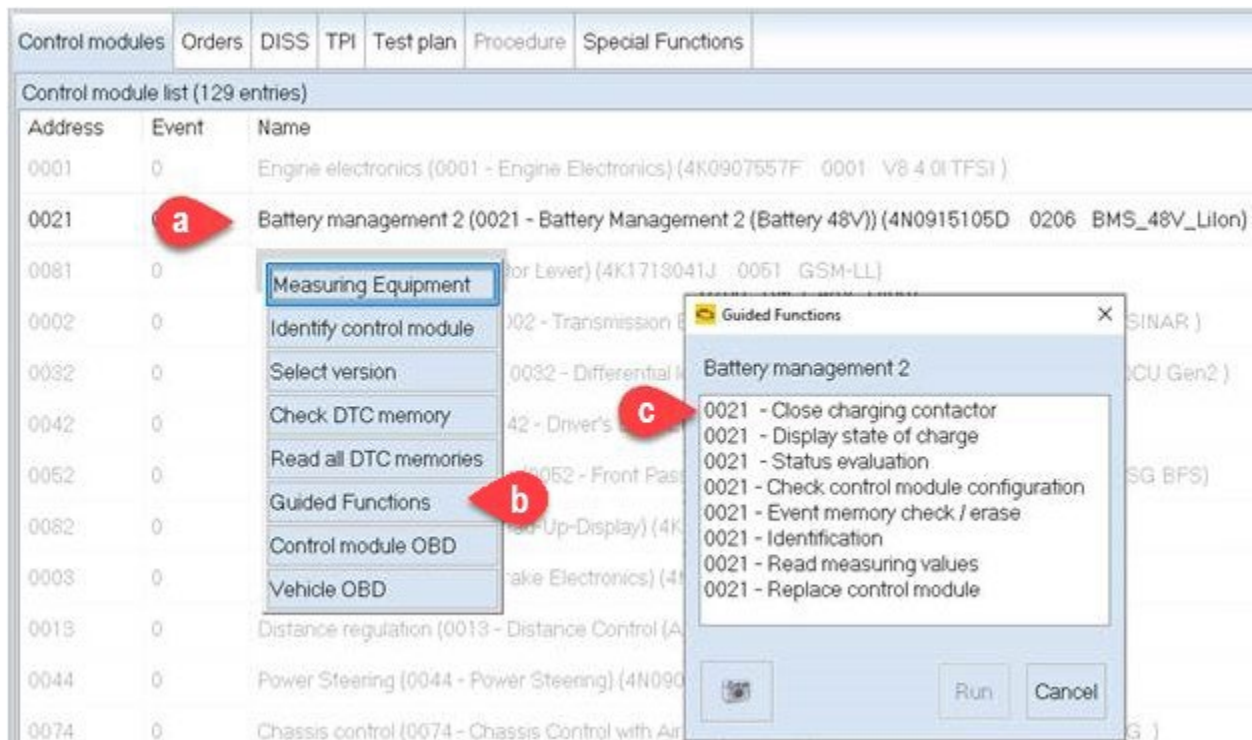

Figure 1: Use the steps below to access the test plan.
3. In ODIS GFF run test plan "0021 – Close charging contactor" (Figure 1) to set the adaptation for protection relay closed, **do not exit the test plan** once the adaptation has been set.